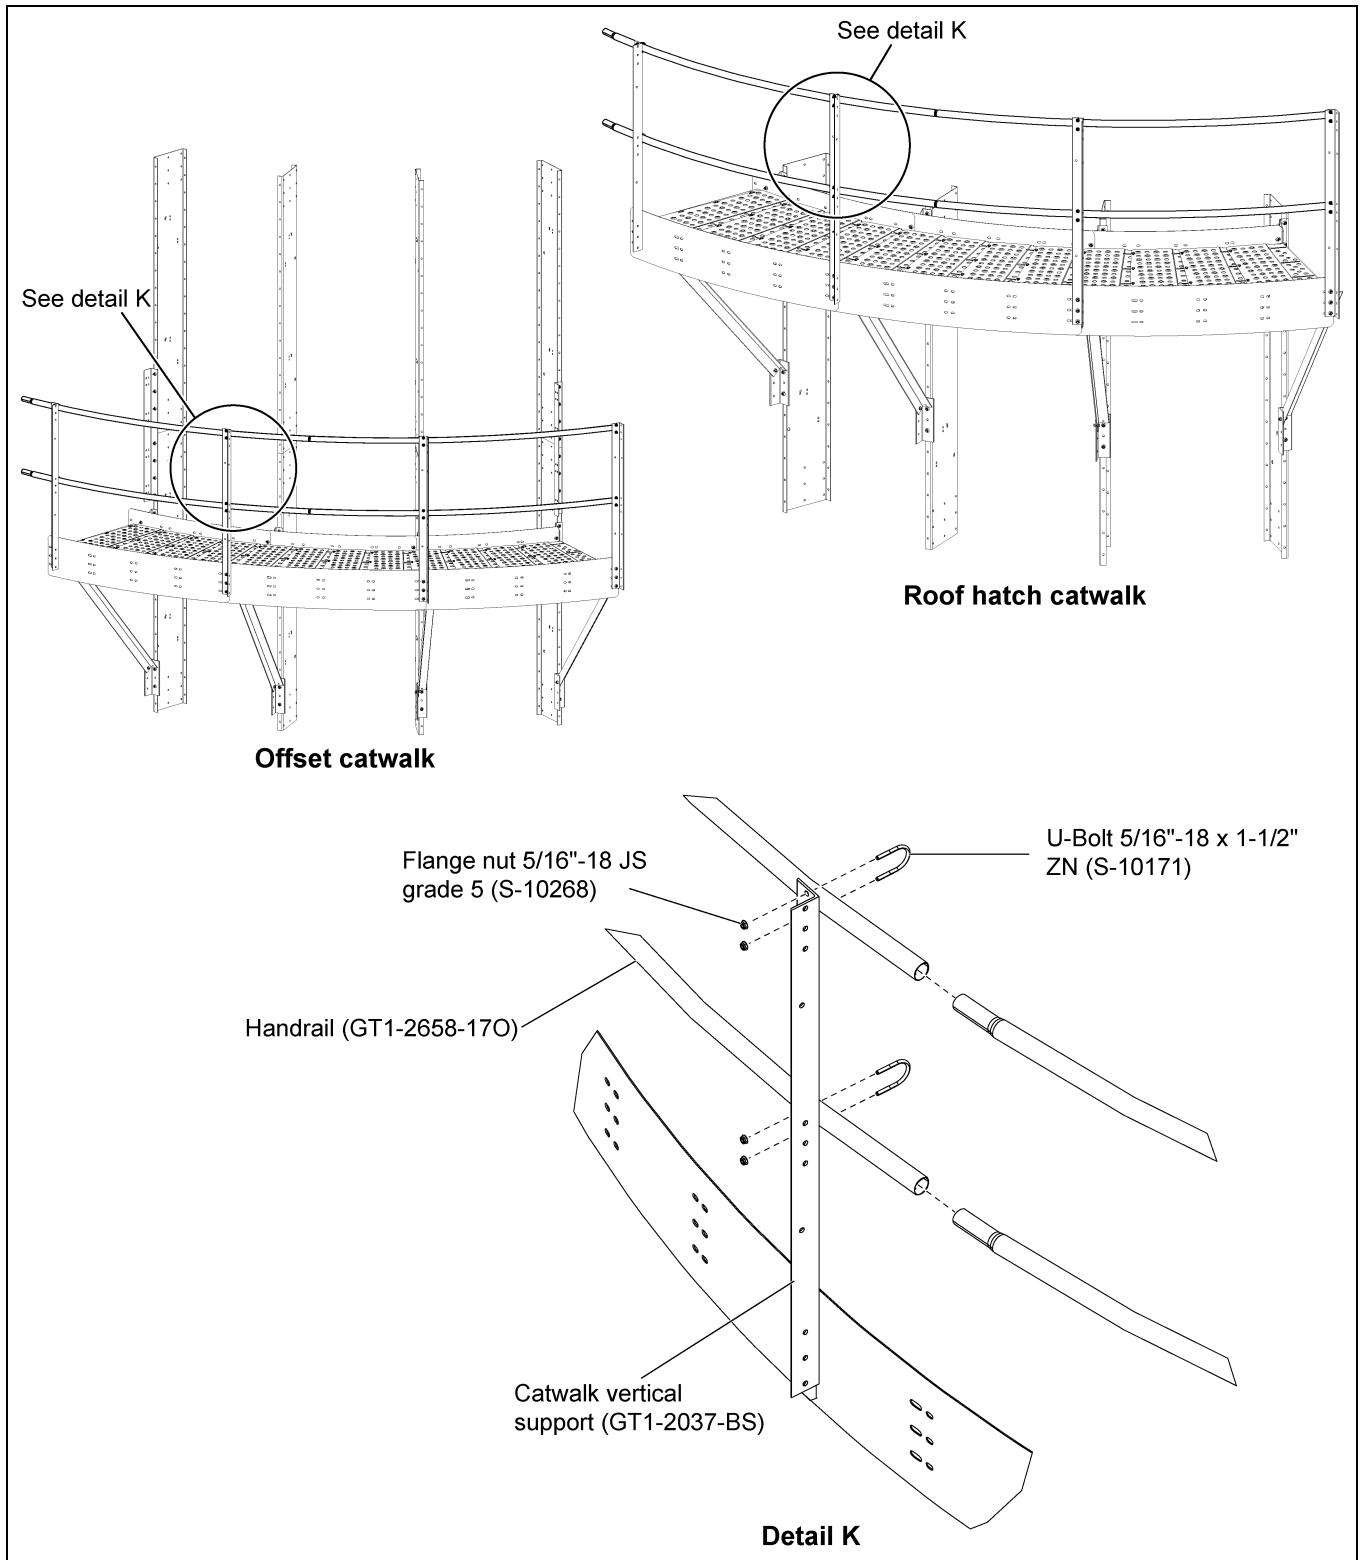

Figure 6U Handrail (GT1-2658-170) Installation for Offset and Roof Hatch Catwalks
1. Install the long handrail (GT1-2658-170) to the catwalk vertical support (GT1-2037-BS) using 5/16"-18 ZN U-bolts (S-10171) and 5/16"-18 JS grade 5 nuts (S-10268) to tighten the handrail with vertical post. (See Figure 6U.)